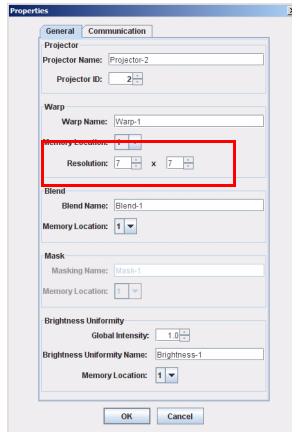

Figure 7-2 Changing the warp grid resolution
1. On the **Edit** menu, click **Properties**. The Properties dialog appears (Figure 7-2).